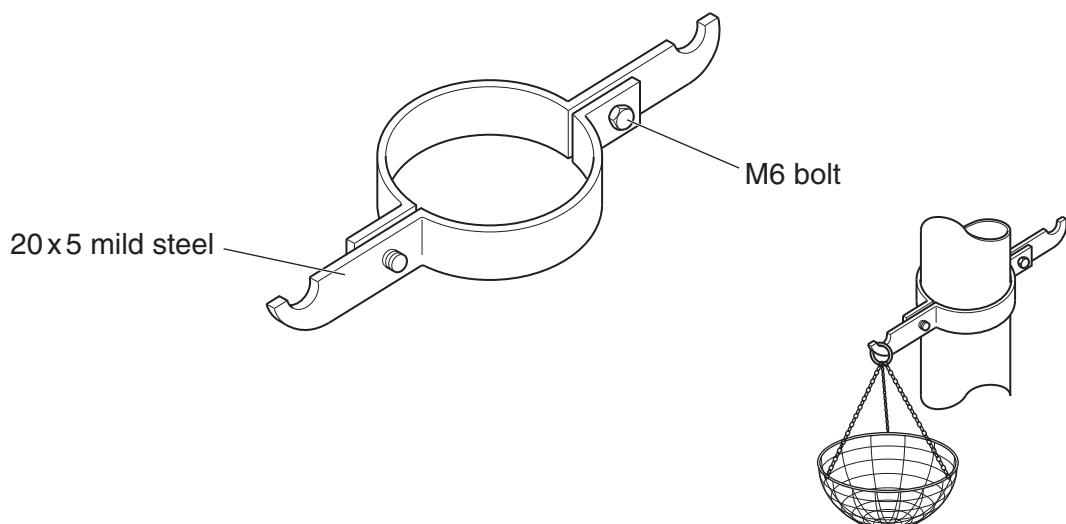

Fig. 4
- 4** Fig. 4 shows a lamppost bracket for hanging baskets. The bracket is made in two parts from 5 mm thick mild steel.
- (a)** Give **two** benefits to the environment of using mild steel for the bracket shown in Fig. 4.
- (c) Use sketches and notes to design a method of securing the hanging baskets on the bracket shown in Fig. 4.